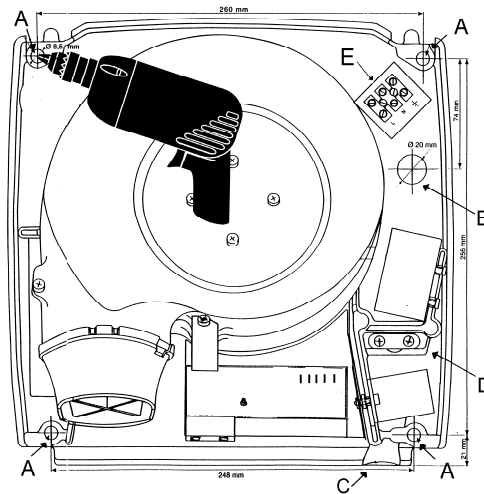

Fig. 1
- ❶ Attach the template (Fig. 1) to the wall with tape ensuring that it is level.
- ❷ Mark and drill holes "A". Drill holes to fit plugs for 8 mm screws.
- ❸ Insert plugs and secure the dryer to the wall with 8 mm screws.
- ❷ Mark and drill holes "A".
- ❸ Secure the dryer with 8 mm screws for relevant wall type. Use plugs for plaster walls.
- ❶ When connecting directly to the fixed installation wiring via fixed cable or terminal box in the wall behind the dryer, the cable must be fed through hole "B" (Fig. 1) in the base plate and connected to the terminal block "E". Connect by means of three leads of min. 1.5 mm2 cross-section per lead, 150 mm long (7 mm of which stripped).
- ❷ If installation as described in point ❶ is not possible, ensure fixed installation via contact breaker by feeding a loose, insulated cable through hole "C" at the bottom of the base plate, through tensile relief strap "D" for connection to terminal block "E". Apply three-core cable with earth wire, each lead min. 1.5 mm2 cross section; maximum cable length: 1.5 m. Before securing the housing, remove the small relief at the bottom of the housing with cutting nippers and a file, ensuring that the hole is deburred and has no sharp edges.
**NB:** For dryers with stainless steel housings, point ❶ is the only installation option.